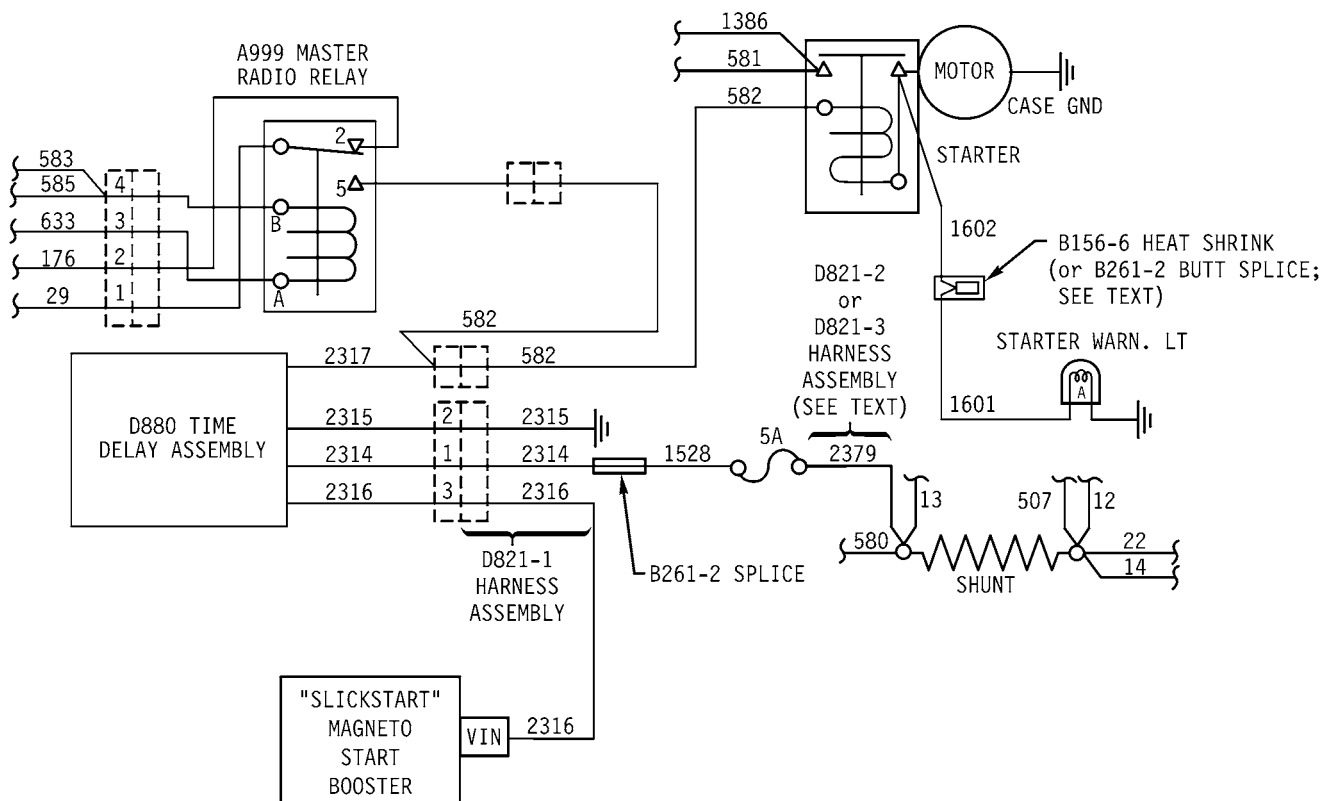

FIGURE 1
4. Refer to Figure 1, and IPC Figure 8-35 item 21, dated JUL 2008 (or subsequent). Disconnect -1601 and -1602 wires, attached to single receptacle, from fuse block. Slide 1-inch length B158-4-1 heat shrink over, and completely cover, receptacle and apply heat. While heat shrink is hot, pinch and close the open tip using smooth-jaw pliers to seal tip. Verify wire is insulated and verify heat shrink security.
5. a. Helicopters with Aft or Tailcone Battery: Refer to Figure 1, and IPC Figure 8-35 items 3 and 23. Connect (supplied) D821-2 harness assembly (-2379 wire) receptacle to fuse block, opposite -1528 wire. Verify "5A" stamp on heat shrink is legible. Attach D821-2 harness assembly ring terminal to shunt at same screw securing -13 wire to shunt. Verify harness security.
b. Helicopters with Nose or Underseat Battery: Refer to Figure 1, and IPC Figure 8-35 items 3 and 33. Connect (supplied) D821-3 harness assembly (-2379 wire) receptacle to fuse block, opposite -1528 wire. Verify "5A" stamp on heat shrink is legible. Route -2379 wire forward thru firewall and along airframe harness to shunt (shunt is installed near battery). Cut -2379 wire as required, strip end, and crimp (supplied) B260-3 ring terminal on wire. Attach D821-3 harness assembly ring terminal to shunt at same screw securing -13 wire to shunt. Verify harness security.